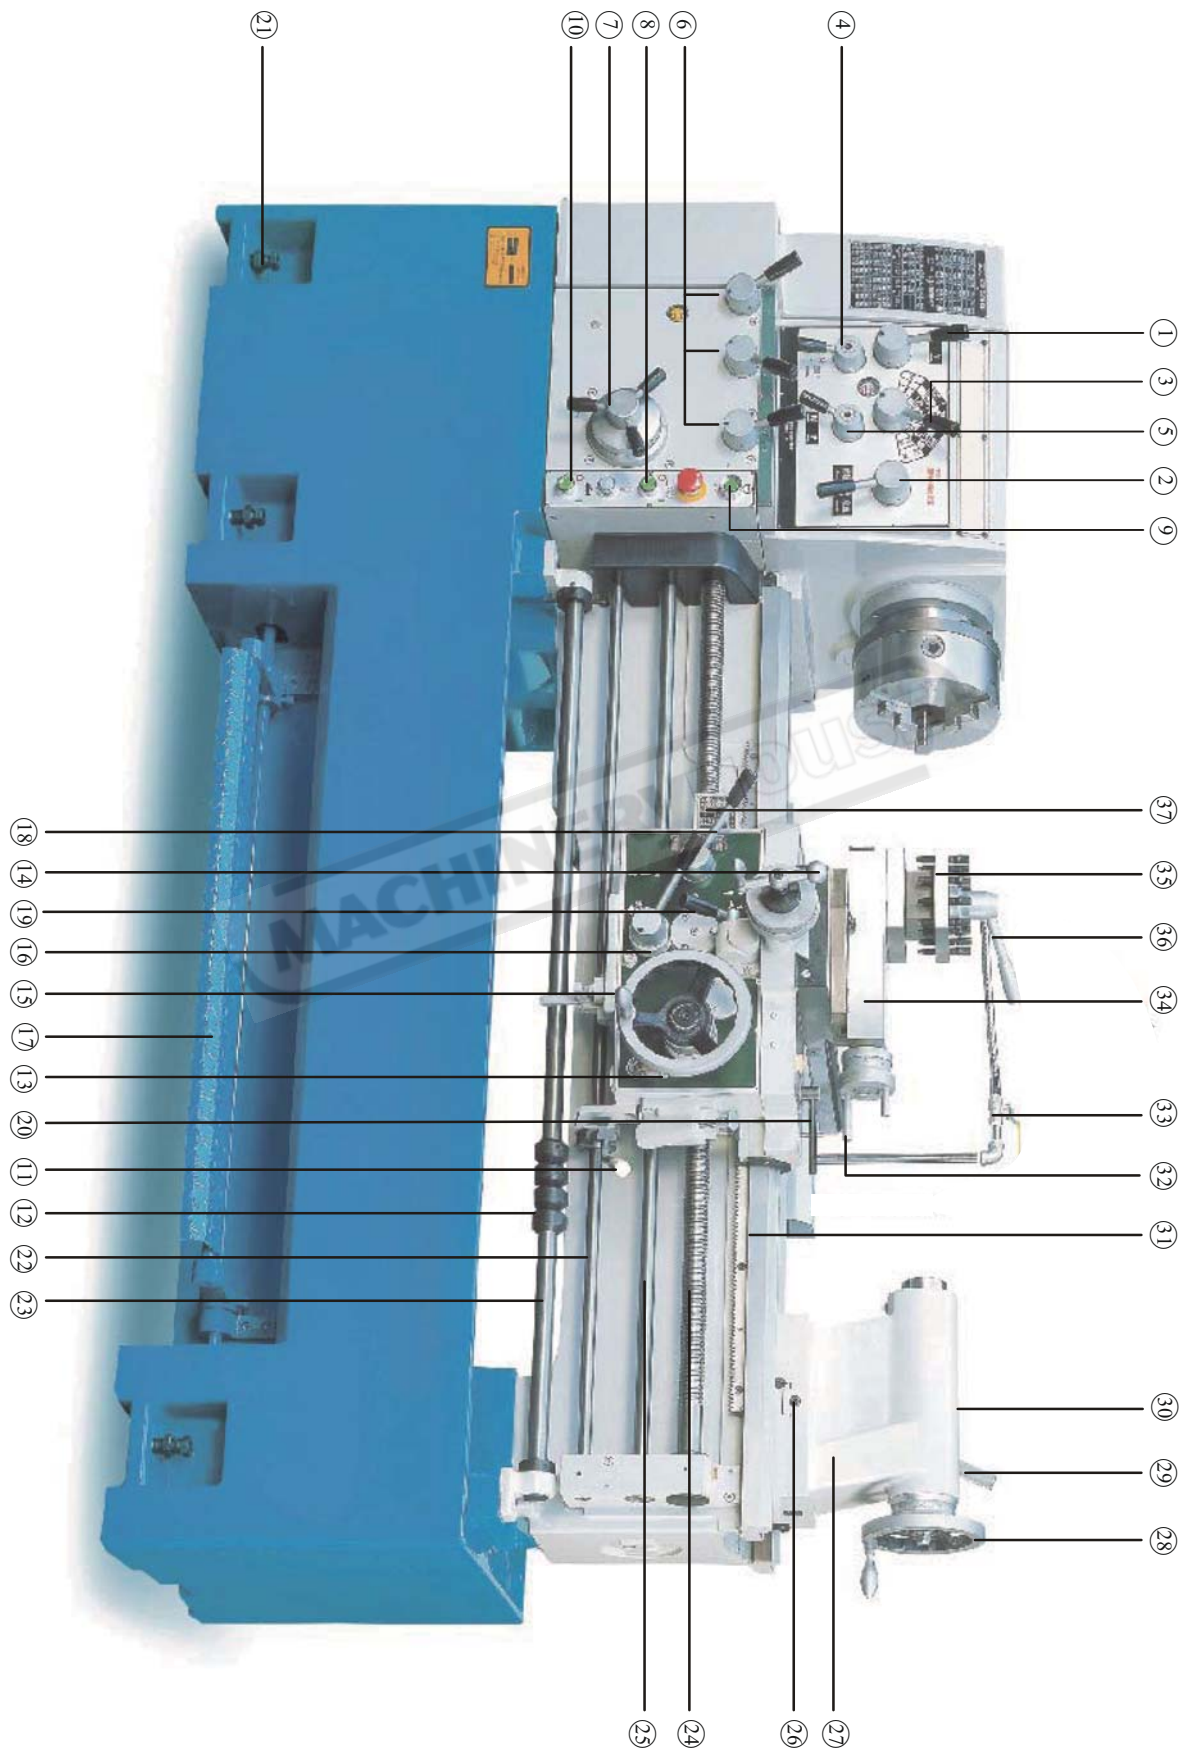

Fig. 1-1
Position the spindle speed H/L shifting lever ② to “L”, the spindle speed shifting selection lever ③ to the very left side, and forward/reverse shifting lever ④ to “N” position. Lift the spindle operation control lever (⑪ of figure 1-1), the spindle will rotate forward, press down the lever, the spindle will rotate reverse; in ‘Neutral’ position, the spindle will stop. For normal forward & reverse revolution, always operate the spindle operation control lever. For emergency stop, step on the foot brake, the spindle operation control lever should push back to ‘Neutral’ position after stepping the foot brake. Afterward, start the spindle.
Turn the coolant supply button (⑩ of figure 1-1). Adjust the adjusting valve for the required coolant flow.